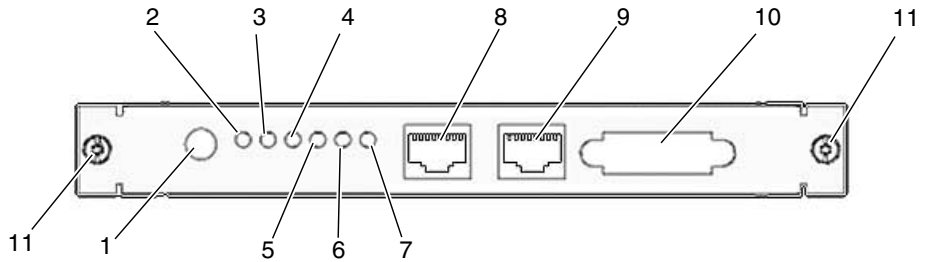

FIGURE 6-2 Shelf Alarm Panel Front Panel Components
Refer to FIGURE 6-2 for the ports on the shelf alarm panel.
TABLE 6-1 Legend for FIGURE 6-2
4. Loosen the two screws that secure the shelf alarm panel to the shelf (FIGURE 6-2).